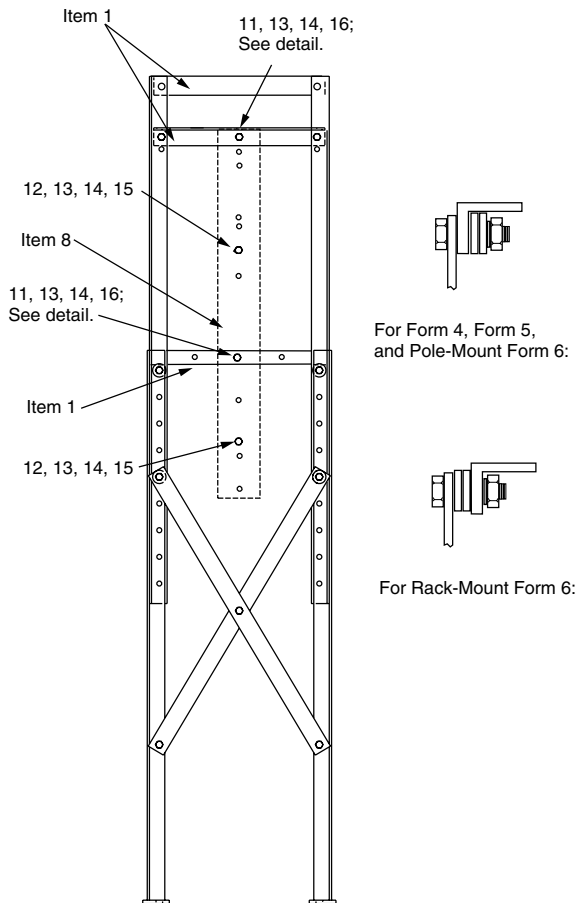

Figure 13. Attaching control mounting strap (Item 8) to sub-station frame.
Attach the control mounting strap (Item 8) to either one of the narrow frame sides. See Figures 13 and 14.
3. Mount the control to the control mounting strap (Item 8). Measure the strap to determine where to mount the control. Use 2.5" hex head capscrews (Item 12) and washers (Item 15), and secure with lockwashers (Item 14) and .5" hex nuts (Item 13). See Figures 13, 14, and 15.